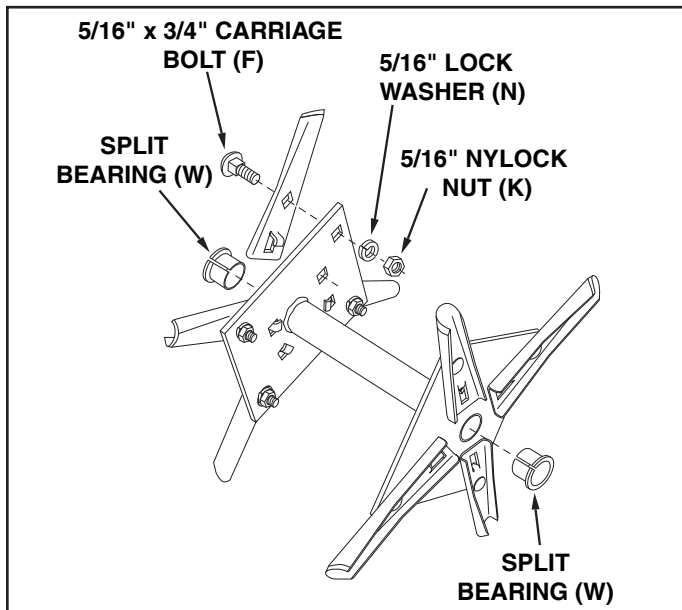

FIGURE 1
1. Assemble eight aerator knives on the **outside** of each double spool assembly. Rotate each knife to insert the locking tab into the spool plate, then align the square holes and secure with a 5/16" x 3/4" carriage bolt, 5/16" lock washer and 5/16" nylock nut. See figure 1.
2. Push split plastic bearings into both ends of each double spool tube. See figure 1.